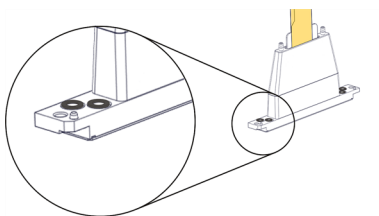

Figure 4-95 O-ring seals on the print head
17. Place four (4) O-ring seals in the replacement head (see Figure 4-95 on the previous page).